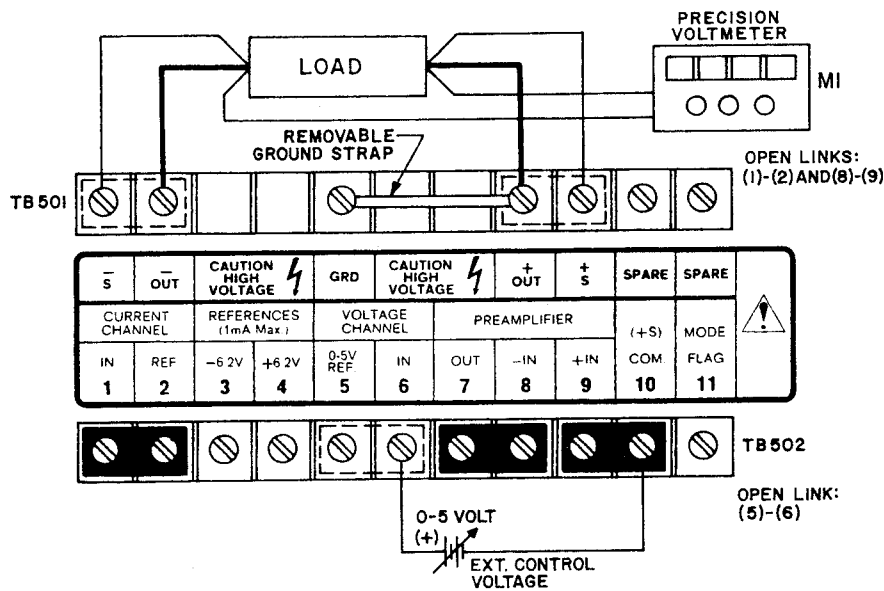
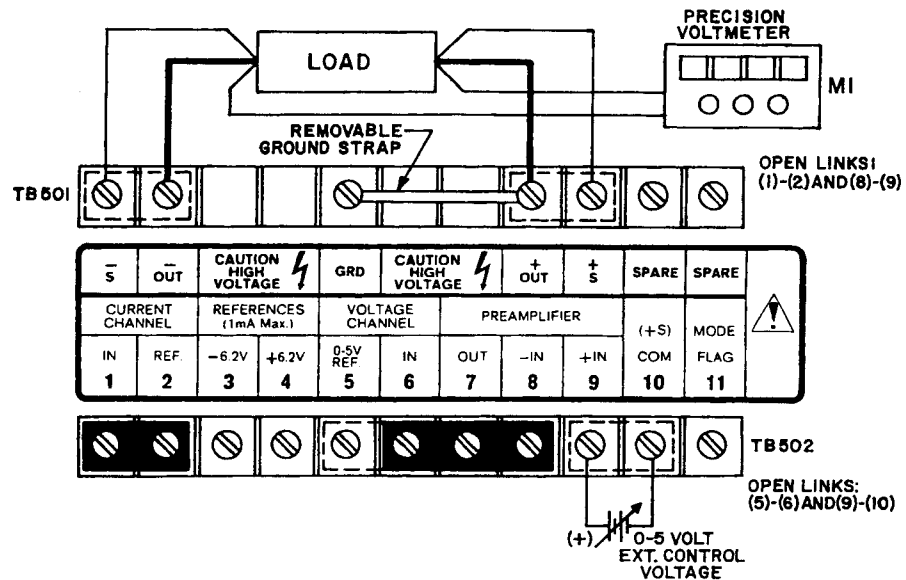

FIG. 3-5 CONNECTIONS FOR APH OUTPUT VOLTAGE CONTROL WITH AN EXTERNAL CONTROL VOLTAGE, HAVING A LOW IMPEDANCE OUTPUT.
FIG. 3-6 CONNECTION FOR APH OUTPUT VOLTAGE CONTROL WITH AN EXTERNAL CONTROL VOLTAGE HAVING A HIGH IMPEDANCE OUTPUT.
3-23 External control potentials which are able to supply at least 1 mA of control current, may be connected to the MAIN VOLTAGE AMPLIFIER directly, as shown in FIG. 3-5. High impedance control sources which are not able to supply 1 mA, can be connected via the PRE-AMPLIFIER, as shown in FIG. 3-6. All control sources should have their own means of calibration (0V and 5V), if output accuracy is considered important. CAUTION: THE MAXIMUM CONTROL VOLTAGE BETWEEN "COMMON" AND THE MAIN VOLTAGE AMPLIFIER INPUT MUST NOT EXCEED 5 VOLTS  $\pm 2\%$ . If control sources with higher output voltage are used which cannot be calibrated to 5 volts maximum output, a resistor in series with the control voltage should be used. The value of this resistor can be calculated by:
- 1) Connect the EXTERNAL CONTROL VOLTAGE, the LOAD and the OUTPUT VOLTMETER (M1) to the APH as shown in *either* FIG. 3-5 *or* FIG. 3-6 (see par. 3-23).